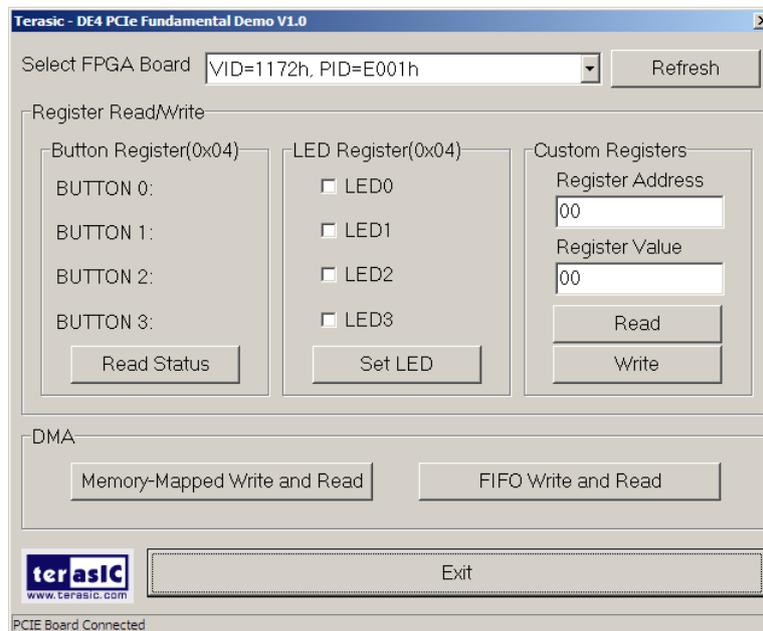

Figure 6–12
- Launch the demo program *PCIe_Fundamental_Demo.exe* shown in **Figure 6–12**.